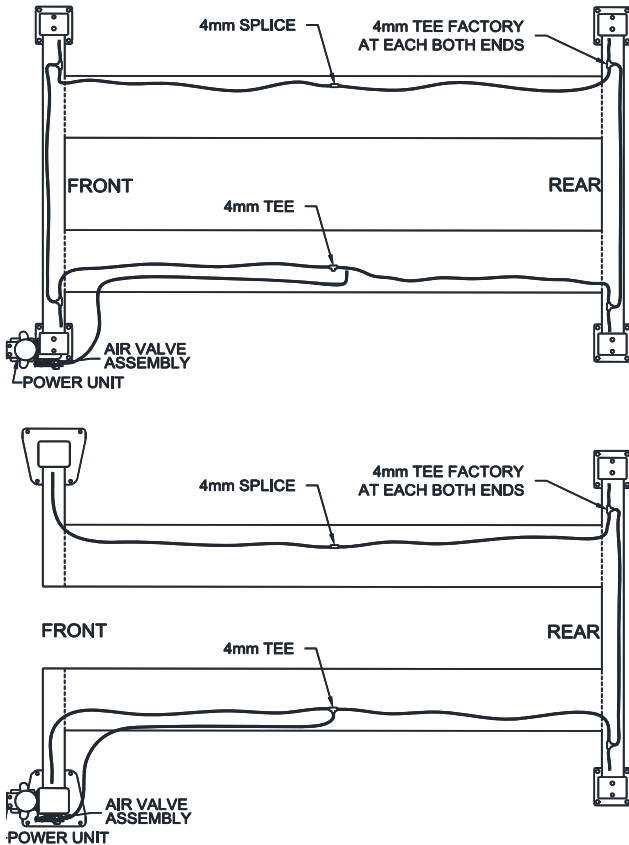

Fig 23 - Lock Release Air Line Routing
- 58) Install 4mm air line from air valve assembly thru opening in runway to Tee. See **Fig 23**